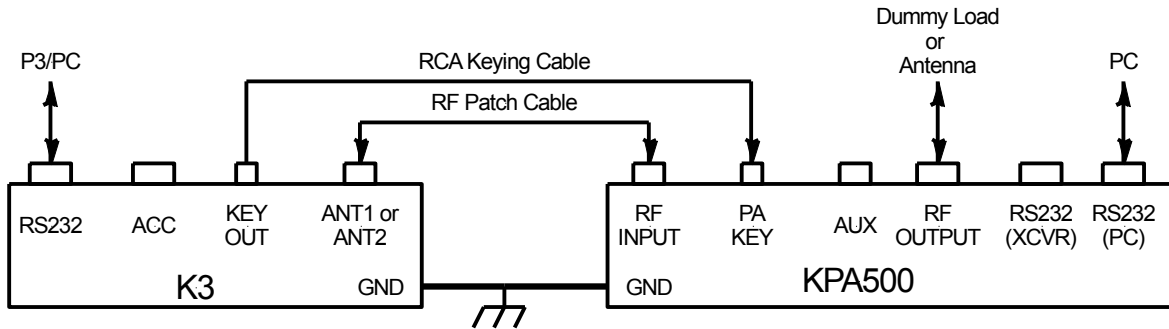
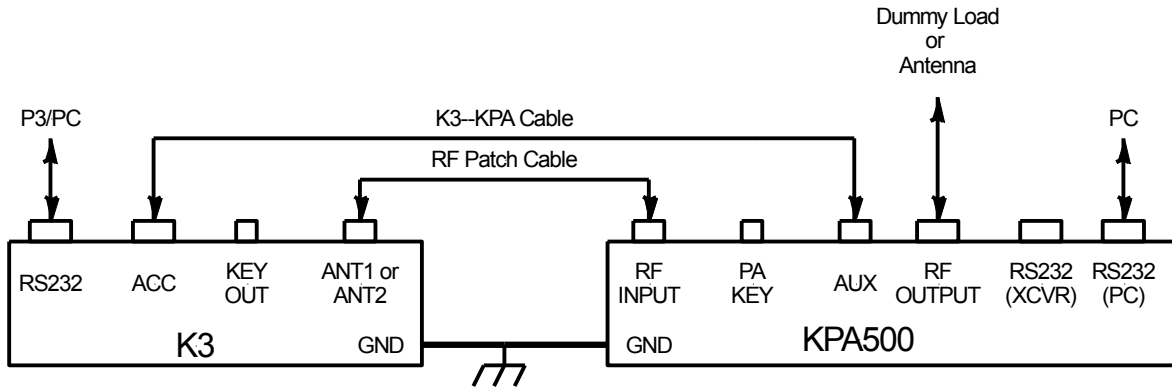

Figure 6. K3 -- KPA500 basic connections.
Figure 7. Enhanced band switching.
Figure 6 shows the connections needed for Basic Band Switching. This is the simplest of all configurations and can be used with any transceiver.
Figure 7 illustrates the connections for Enhanced Band Switching. The K3 – KPA Cable is part of the optional KPAK3AUX Cable Set. It carries band data and keying to the KPA500 and allows the amplifier to communicate its Operate or Standby status to the K3.
- Both the RCA Keying Cable shown in Figure 6 and the K3–KPA Cable shown in Figure 7 should NOT normally be used. Use only one of these cables for keying except when using a TX Keying Line Interrupter.
When using the K3–KPA Cable as shown in Figure 7, two different power output levels can be set in the K3 that are selected by the KPA500 in Operate and Standby mode respectively. To do this: